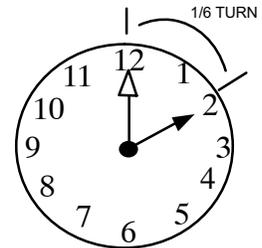

FIGURE 11. Evacuating the System
- 5 - Evacuate the system using procedures in figure 11.